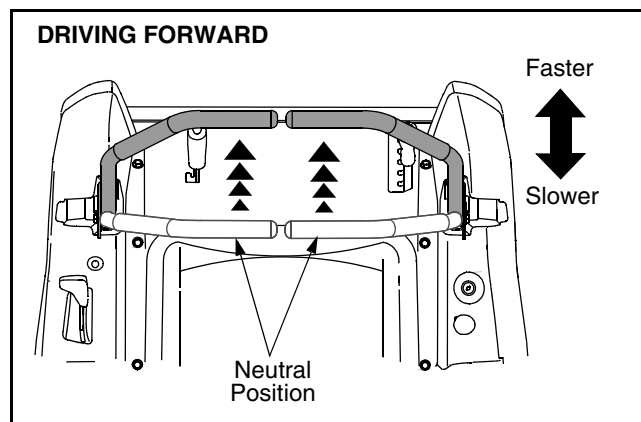

Figure 10
- Slowly and evenly move both drive control levers forward. The tractor will start to move forward. See Figure 10.